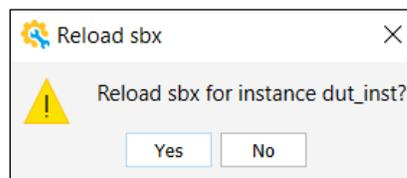

Figure 6.10. Reload sbx
3. Reload dut_inst by double clicking on it. The **Reload sbx** window opens as shown in Figure 6.10. Click **Yes** to continue.